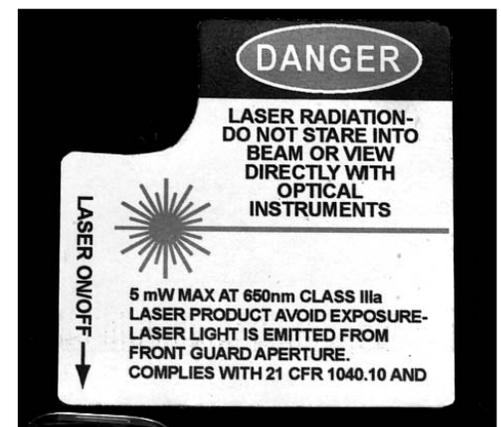

Fig. 1
1. **▲ CAUTION** **LASER LIGHT - DO NOT STARE INTO BEAM,** APERTURE, or into a reflection from a mirror-like surface Figs. 1 and 1A.
1. Pull out the cuttinghead lockpin (A) Fig. 1, and move the cuttinghead (B) to the up position.